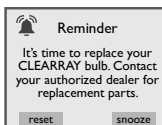

Figure 15.0c
21. CLEARRAY Replacement Reminder: This message will appear when the CLEARRAY bulb reminder time has expired (Figure 15.0c). The CLEARRAY bulb must be replaced.